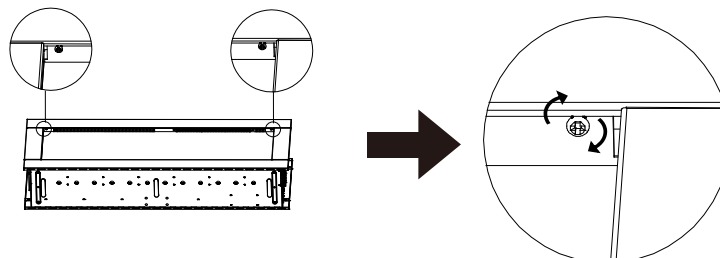

FIG. 3
- Secure trims by tightening the securing fasteners (FIG. 3).